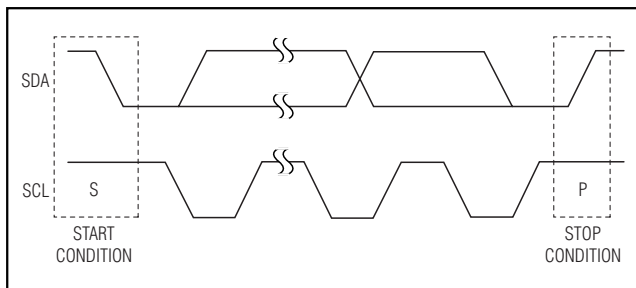
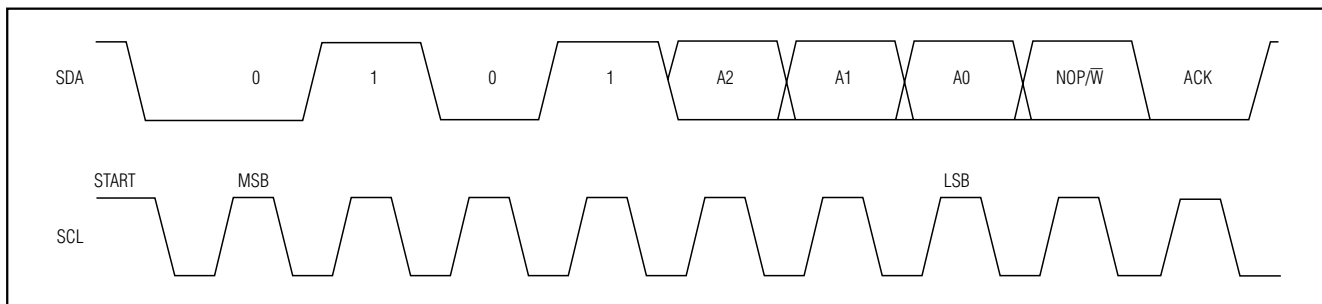

Figure 3. Start and Stop Conditions
Figure 4. Slave Address
Each transmission consists of a START (S) condition (Figure 3) sent by a master, followed by the MAX5477/MAX5478/MAX5479 7-bit slave address plus the NOP/W bit (Figure 4), 1 command byte and 1 data byte, and finally a STOP (P) condition (Figure 3).
Both SCL and SDA remain high when the interface is not busy. A master controller signals the beginning of a transmission with a START condition by transitioning SDA from high to low while SCL is high. The master controller issues a STOP condition by transitioning the SDA from low to high while SCL is high, when it finishes communicating with the slave. The bus is then free for another transmission (Figure 3).
The MAX5477/MAX5478/MAX5479 have a 7-bit-long slave address (Figure 4). The 8th bit following the 7-bit